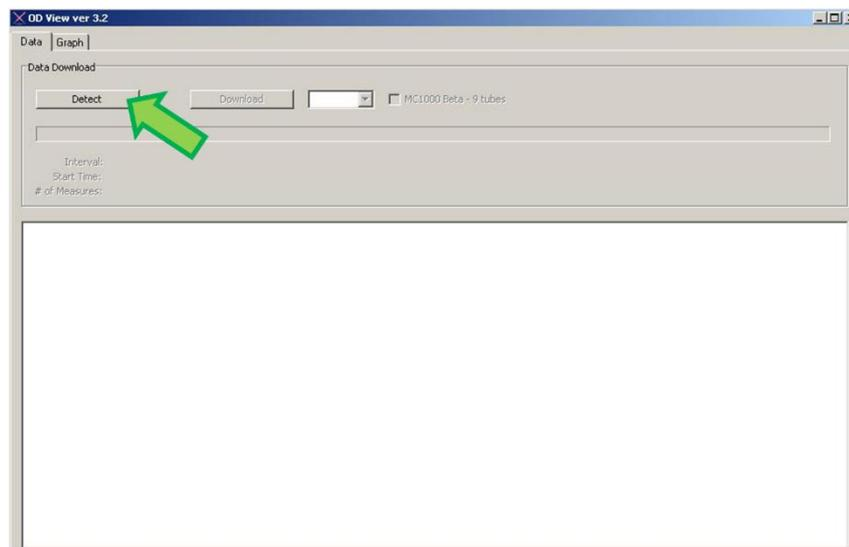

Fig. 24 The initial window of the ODView program
3. Copy the ODView software from the Flash Disc onto the PC first. Run the software. The initial screen will appear as shown in Fig. 24.